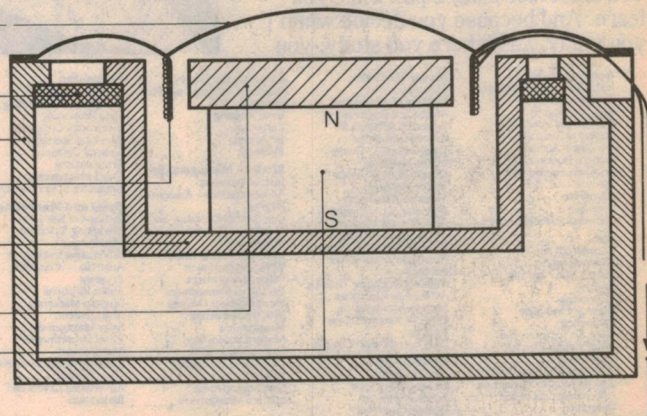

Fig. 4: Illustrating the basic principles of a moving coil or "dynamic" microphone.
**MOVING COIL:** The moving coil microphone is by far the most used in microphone recording practice. Its mode of operation is illustrated in Fig. 4. A coil of copper wire is fixed to its diaphragm. When the diaphragm moves—activated by the sound—the coil follows the movement in the gap of the magnetic system and the copper wire windings cut the magnetic flux lines. This generates an electric voltage in the moving coil and this voltage can be taken by a connecting lead directly to the mixer or tape recorder.